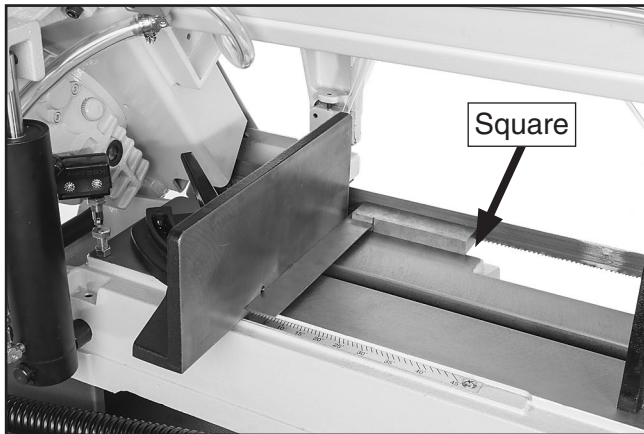

Figure 36. Squaring fixed vise to blade.
1. Check current fixed vise jaw-to-blade angle with machinist's square (see **Figure 36**).